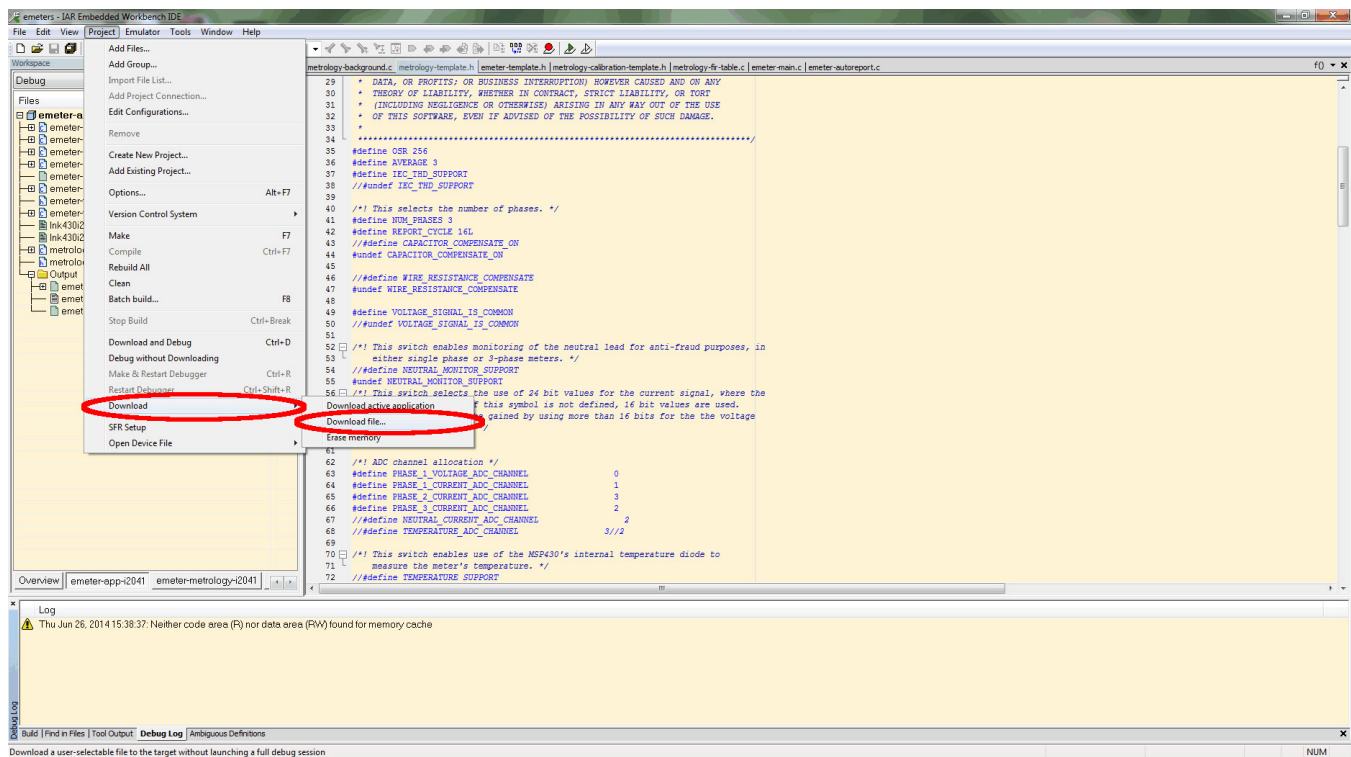

Figure A-11. Download File
2. Click Project→Download→Download File... (see Figure A-11).